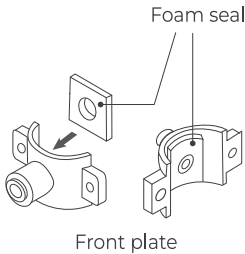

Figure 8
a. Stick the foam seal on the front plate of the drain saddle. Ensure that the hole of the foam seal is aligned with the hole of the front plate (Figure 8).